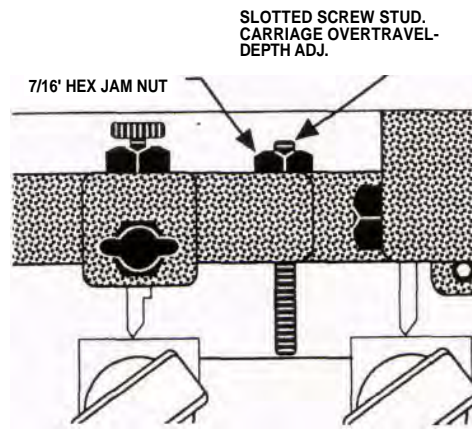

Figure 20
Loosen the 7/16" Hex Jam Nut located at the back of the machine's main housing. See figure 20.
- If adjusted to high your cutter wheel may not cut deep enough when cutting deep cuts in keys. See figure 20.